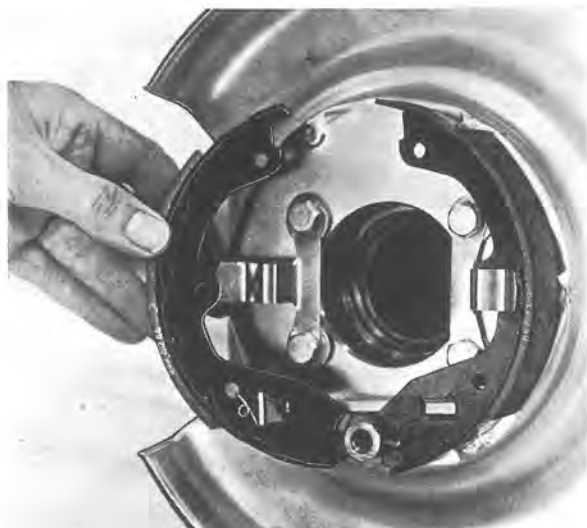
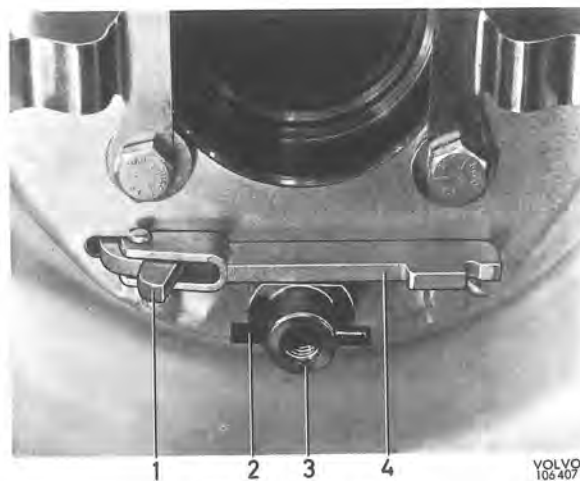
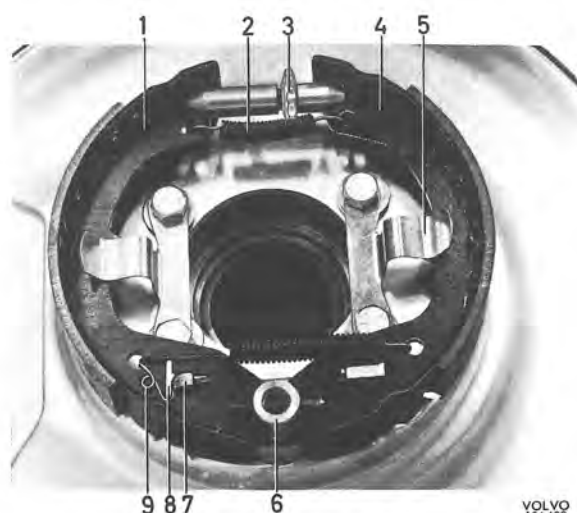

Fig. 5-86. Removing the brake shoes
Fig. 5-87. Brake parts
Fig. 5-88. Parking brake
- Remove both the return springs and the adjusting device. Lift forward the shoes, see Fig. 5-86. Manoeuvring the links will facilitate removal.
3. Check that the lever and anchor bolt parts are correctly fitted, see Fig. 5-87. Check that the washer (6, Fig. 5-88) and the spring (7) are in position in the primary shoe. Fit the brake shoes, see Fig. 5-86. The shorter sleeve on the adjusting device should be turned forwards on the right-hand side and backwards on the left-hand side, see Fig. 5-88.